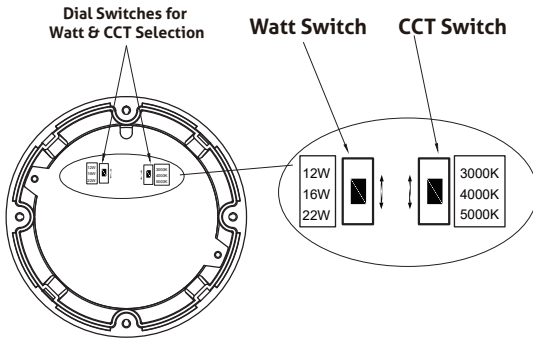

Fig 9
1. DIP switches are located onto the fixture. (see **Fig. 9**)